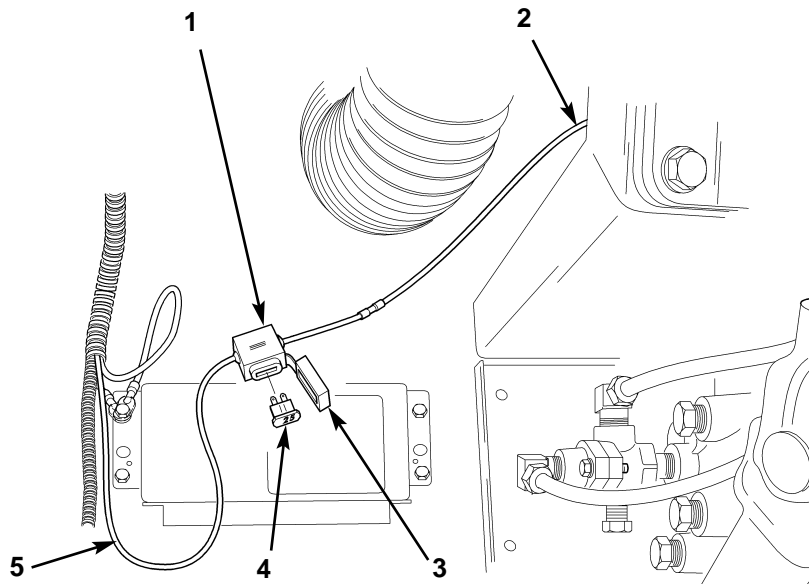

Figure 1. Removing and Checking ABS ECU 30-amp Fuse.
1. Locate ABS ECU 30-amp fused red wire (figure 1, item 5) and follow it to black fuse connector (figure 1, item 1) near circuit 40 purple wire (figure 1, item 2).
2. Pull cover (figure 1, item 3) off fuse connector (figure 1, item 1) and remove fuse (figure 1, item 4) from fuse connector (figure 1, item 1).
3. Examine fuse (figure 1, item 4). Discard fuse (figure 1, item 4) if center wire is burned away.